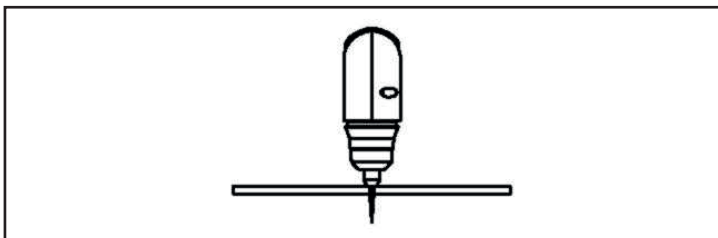

Figure 18
- Complete the pierce off the cutting line and then continue the cut onto the line. Hold the torch perpendicular to the workpiece after the cut is complete. Fig. 18